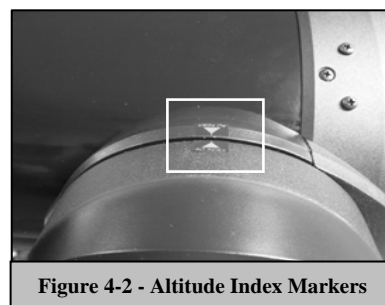
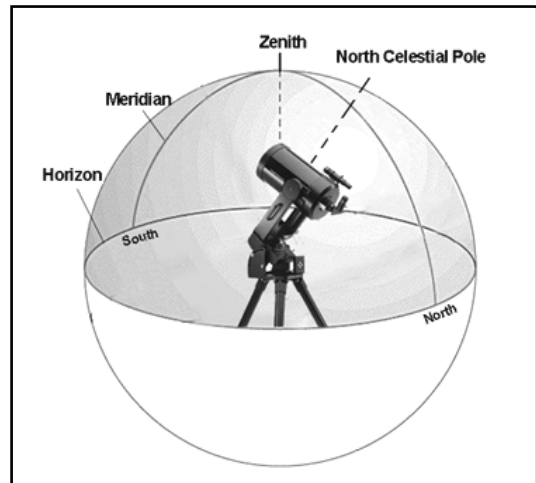

Figure 4-2 - Altitude Index Markers
Figure 4-3
The EQ AutoAlign uses all the same time/site information as the Alt-Az alignments, however it also requires you to position the tube so that the altitude index markers are aligned (see figure 4-2), and then rotate the telescope base until the tube is pointed towards the Meridian (see figure 4-3). Based on this information the NexStar will automatically slew to two selected alignment stars to be centered and aligned. To use EQ Auto-Align:
4. With *Set Alt to Index* displayed on the hand control screen, use the up and down arrow buttons to move the telescope tube upwards until the altitude index markers are aligned. The altitude index markers are located at the top of the fork arm. See figure 4-2.